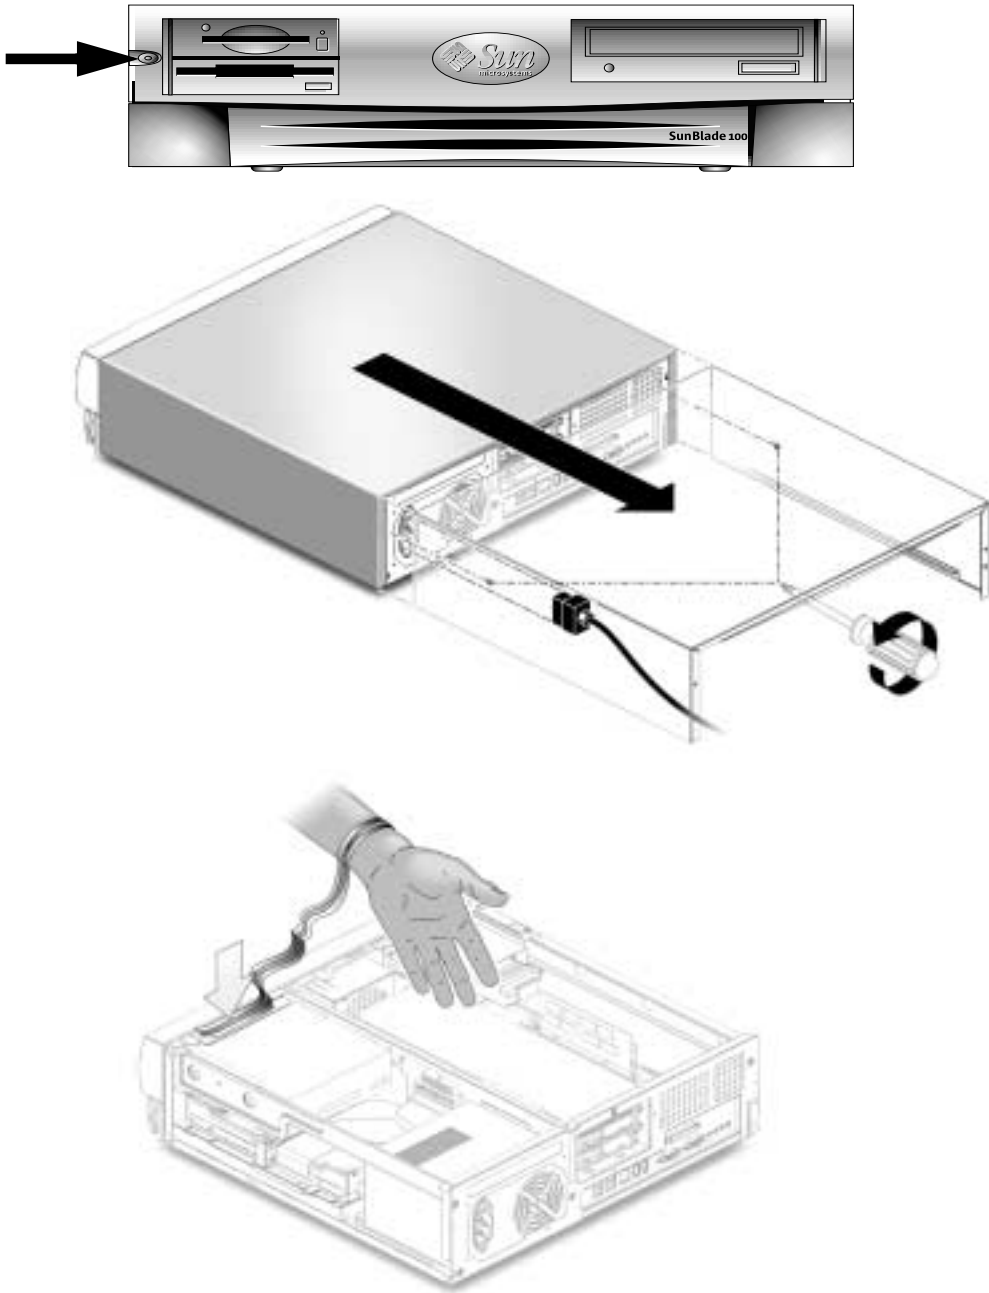

FIGURE 1 Preparing for Component Installation
- a. **Press the power switch and immediately release it (see FIGURE 1).**
1. **Disconnect from the system any cables that are attached to external devices, such as the monitor, keyboard, and mouse (see FIGURE 1).**
3. **Attach the copper foil end of the wrist strap to the system chassis to provide ground for electrostatic discharge (see FIGURE 1).**